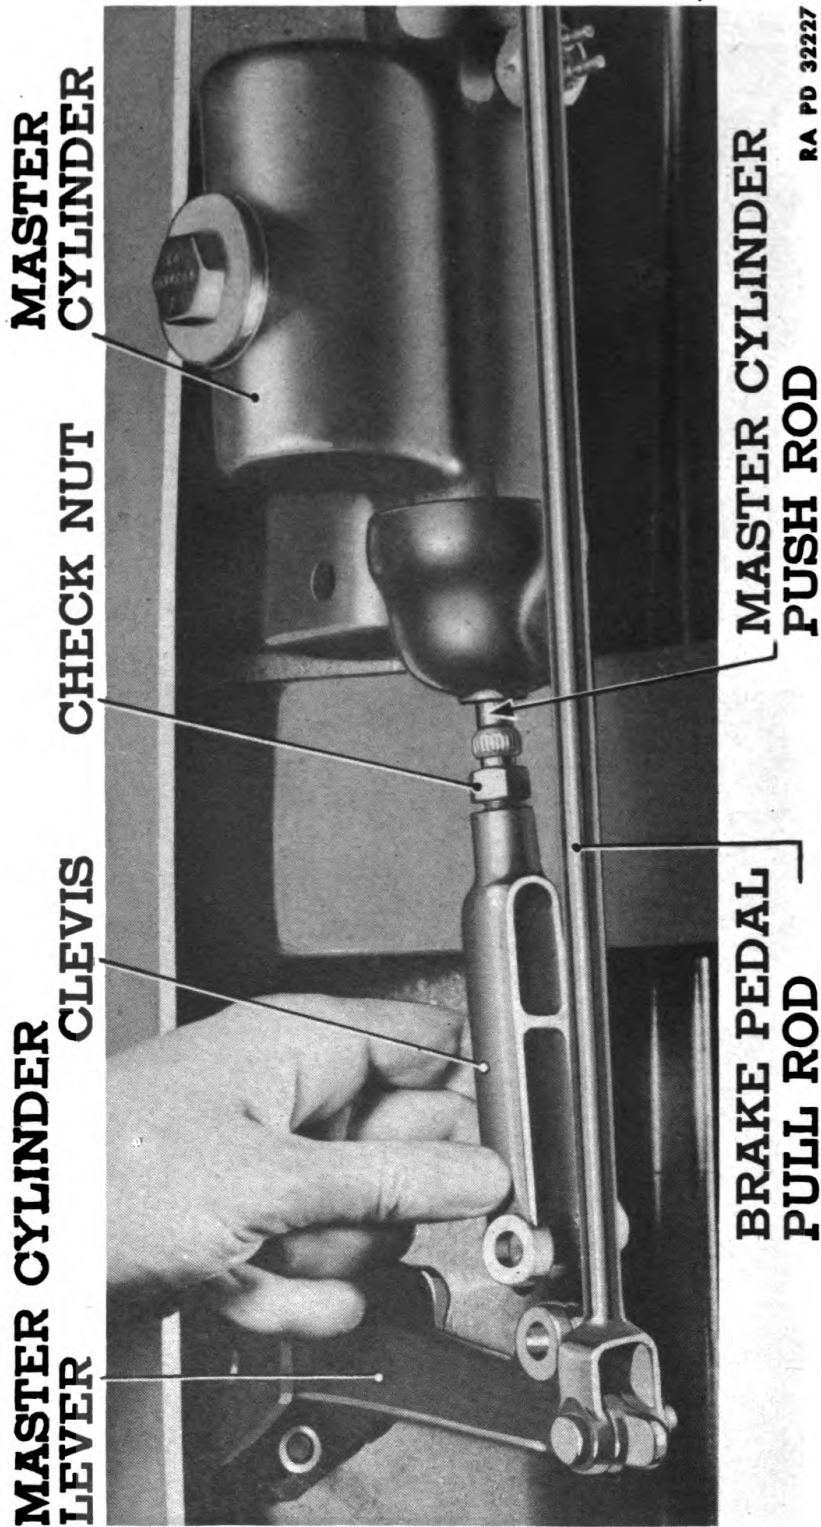

Figure 93—Adjusting Foot Pedal Toeboard Clearance
b. Toeboard Clearance (fig. 93). Toeboard clearance very seldom needs to be adjusted. The pedal stop, which is located in the brake main cylinder, is permanent. Before attempting to adjust toeboard clearance, be certain that the pedal returns to the full-released position freely, with no binding, and that the pedal retracting spring has not lost its tension. Loosen the check nut on the rear of the clevis on the master cylinder push rod. Remove clevis pin, and turn the clevis attached to the master cylinder push rod in the proper